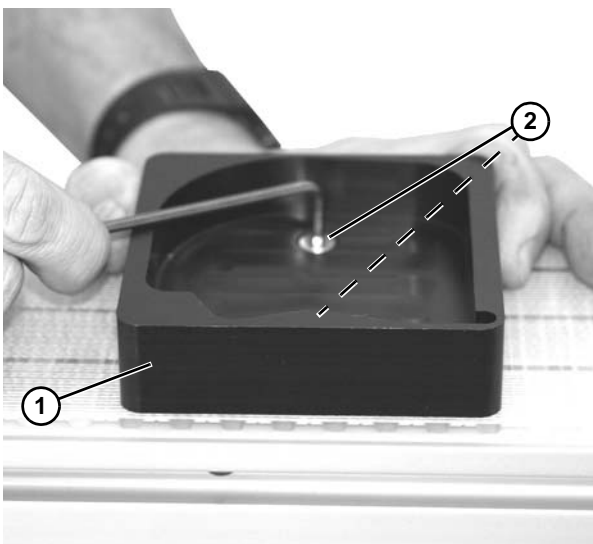

Figure 16
3. Install pallet (**Figure 16, item 1**) onto mounting inserts, and secure with M5 hex screws (**Figure 16, item 2**). Tighten M5 screws to 35 in-lb (4 Nm).